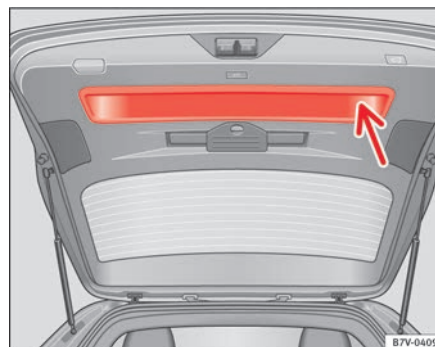

Fig. 55 Tailgate open: hand grip.
- Grab the handgrip inside the tailgate ⇒ fig. 55 (arrow).